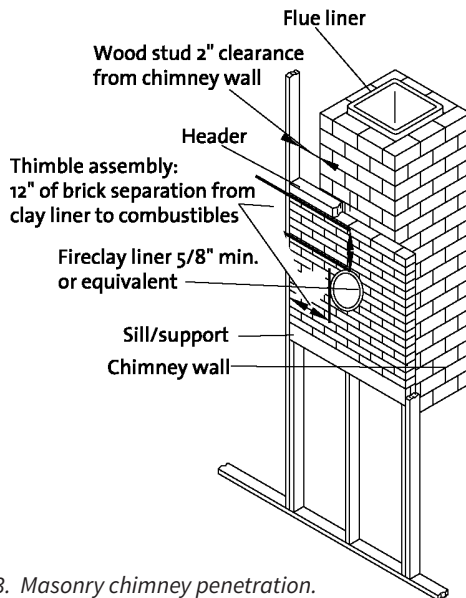

Fig. 2.3. Masonry chimney penetration.
- Refractory mortar must be used at the junction of the chimney and the pass-through liner. The pass-through liner must not penetrate the chimney liner beyond the inner surface of the chimney liner. Use extreme care when constructing the hole in the chimney liner, the tiles can shatter easily. **See figure 2.3.**
When connecting the stove to a masonry chimney through a "thimble" (the opening through the chimney wall to the flue), the thimble must be lined with ceramic tile or metal and be securely cemented in place. See fig. 2.3.